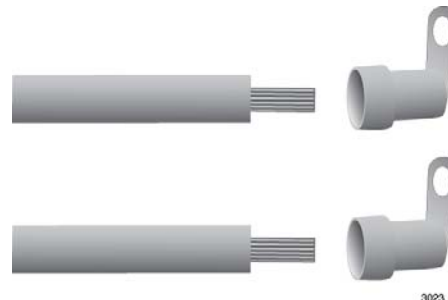

Figure 130. Attaching the Power Wires to the Right Angle Terminals
3. Insert the power wires into the right angle terminals included with the power supply and use a crimping tool to secure the wires to the terminals. See Figure 130,